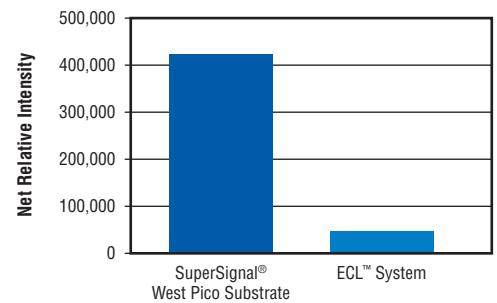

Figure 17. Net relative intensity six hours after incubation.
**Figure 17. 50 ng of recombinant mouse IL-2 was serially diluted to 0.003 ng and electrophoresis was performed.** The gel to be used for SuperSignal® West Dura Substrate was transferred to nitrocellulose membrane and the gel to be used for ECL Plus™ Substrate was transferred to PVDF membrane. The membranes were blocked and then incubated with a 1 µg/ml dilution of the primary antibody, rat anti-mouse IL-2. After washing, the membranes were incubated with the secondary antibody, HRP-conjugated goat anti-rat IgG.